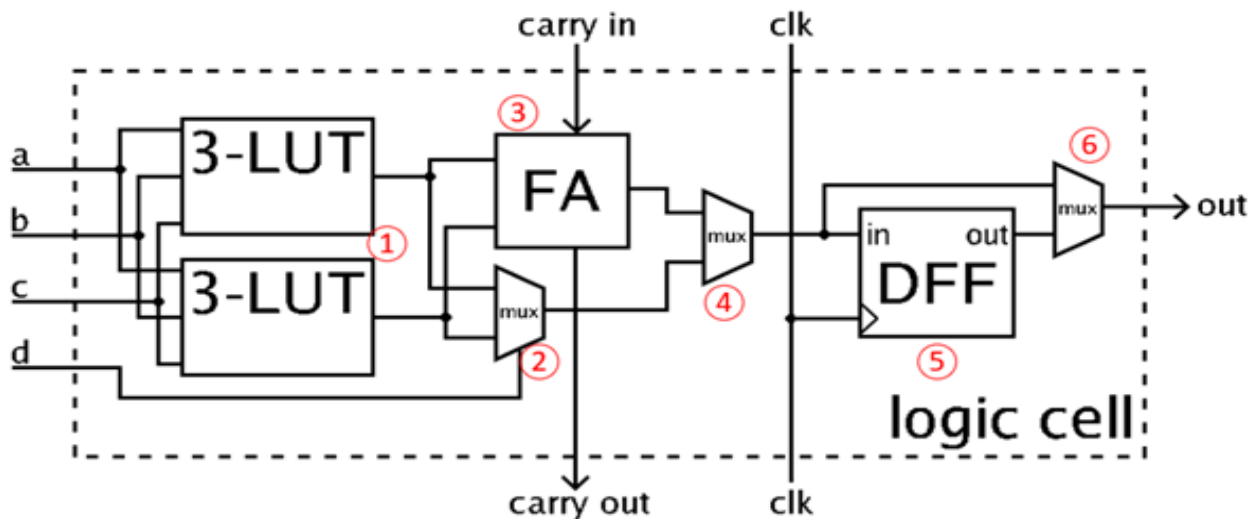

Figure 2: A simplified CLB: The four-input LUT is formed from two three-input units.
An individual CLB (Figure 2) is made up of several logic blocks. A lookup table (LUT) is a characteristic feature of an FPGA. An LUT stores a predefined list of logic outputs for any combination of inputs: LUTs with four to six input bits are widely used. Standard logic functions such as multiplexers (mux), full adders (FAs) and flip-flops are also common.
The number and arrangement of components in the CLB varies by device; the simplified example in Figure 2 contains two three-input LUTs (1), an FA (3) and a D-type flip-flop (5), plus a standard mux (2) and two muxes, (4) and (6), that are configured during FPGA programming.